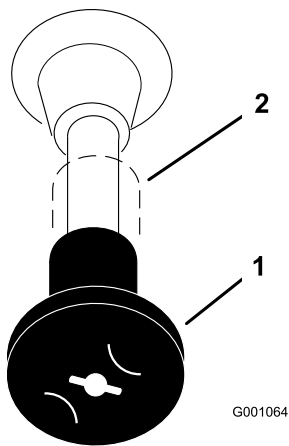

Figure 13
4. Move the choke control to the **on** position before starting a cold engine (Figure 13).
7. After the engine starts, move the choke to off (Figure 13). If the engine stalls or hesitates, move the choke back to on for a few seconds, then move